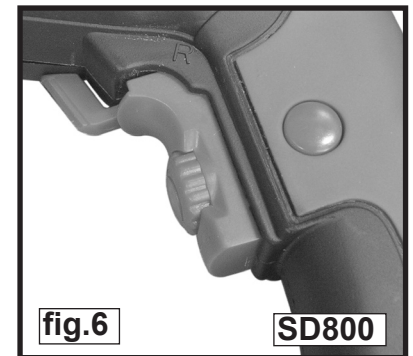

fig.6
3.2.7. **Direction of rotation.** Select either forward or reverse rotation using the lever mounted directly above the trigger. (See figs.6 & 7) The lever flicks from left to right. Select reverse by moving the lever to the 'L' symbol (SD800) or the ► symbol (SD1000). To select the forward direction flick the lever to the other side to be adjacent to the 'R' symbol (SD800) or the ◀ symbol (SD1000).